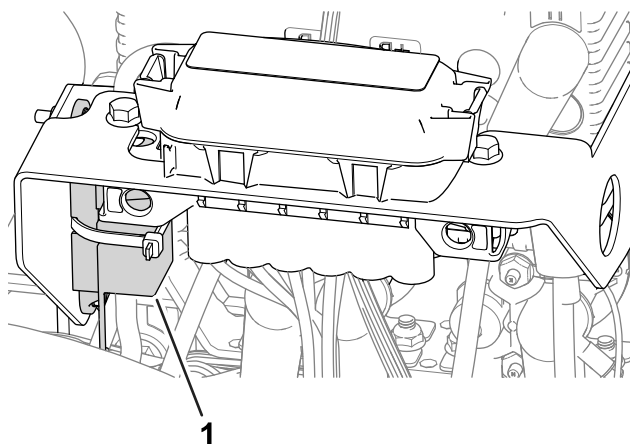

Figure 44
- The fuse for the left wheel motor (60 A) is located under the cover on the left side of the machine, near the reel-drive-circuit fuses (Figure 44).